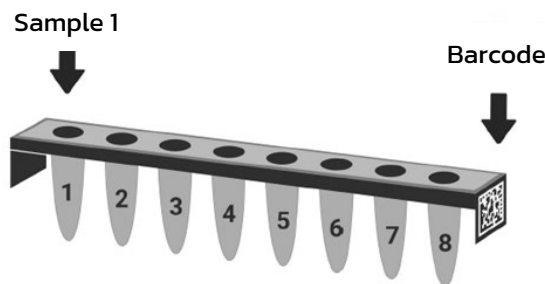

Figure 3. Required placement of samples in the *Sample Input Strip*
**NOTE:** The simple must be placed in the *Magnis NGS Prep System* device as shown in Figure 3, with Sample 1 loaded in the well located farthest from the barcode.